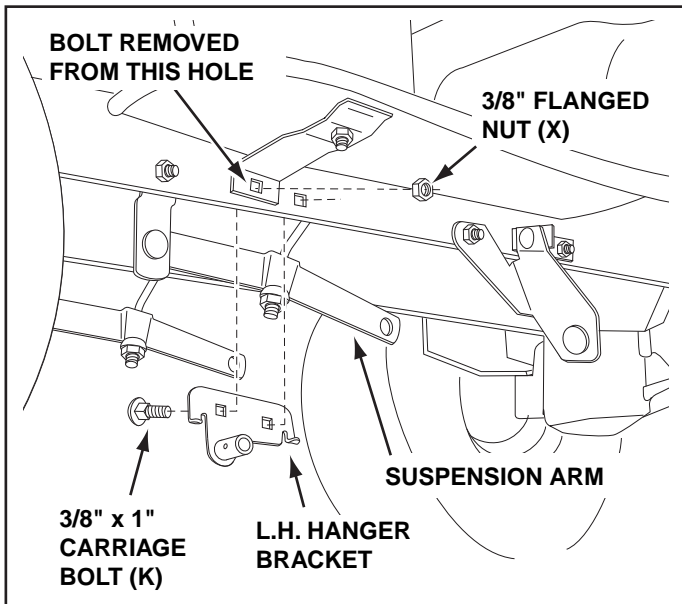

FIGURE 25 LEFT SIDE VIEW
STEP 26: (SEE FIGURE 25 OR 26)